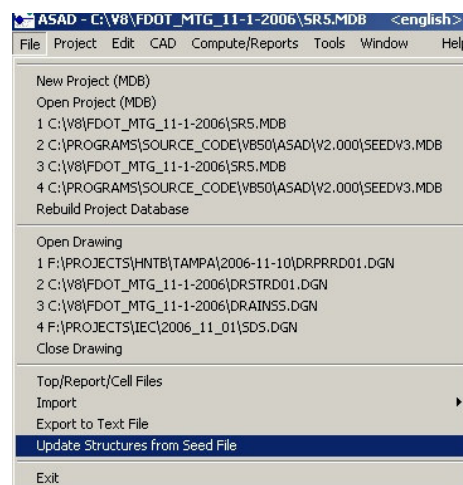

Figure 1.3
ASADv3 uses the same basic database structure as version 2 which makes the database backwards compatible with version 2. When a version 2 database (*.mdb) is first opened by ASAD version 3, there will be new fields inserted into the database. Most of these fields are specific to the Structure Definitions. Even though the space for the new fields has been established in the database, the actual data has not been inserted into these fields. For example; HDR_TEXT1, HDR_TEXT2, HDR_TEXT3, and HDR_TEXT4 (column header text used in summary of drainage structures) are just a few of the new fields that are created in the database. These fields, as well as others, have to be ‘filled in’ by the user. This can be accomplished by (1) *manually* keying in the data, for each structure to be updated, using the pulldown: Edit>Structure Definitions or (2) *semi-automatically* by copying the data from the version 3 seed database (seedv3.mdb) using the pulldown: ‘File>Update Structures from Seed File’ (see figure 1.3).